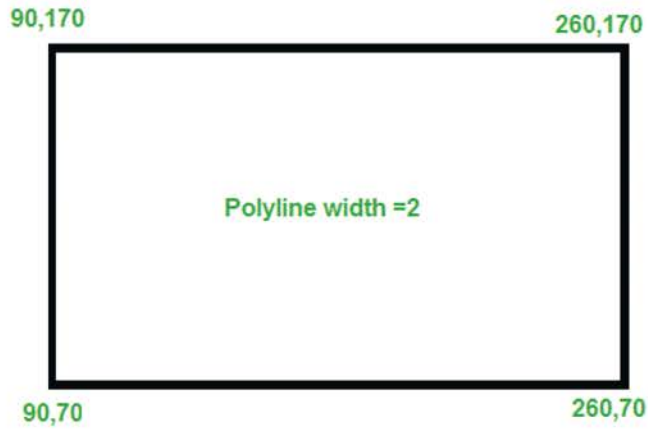

Fig. 2.23 Exercise 2
2. Construct the polyline outline given in Fig. 2.23. The figures along the plines are the lengths of the plines in coordinate units.